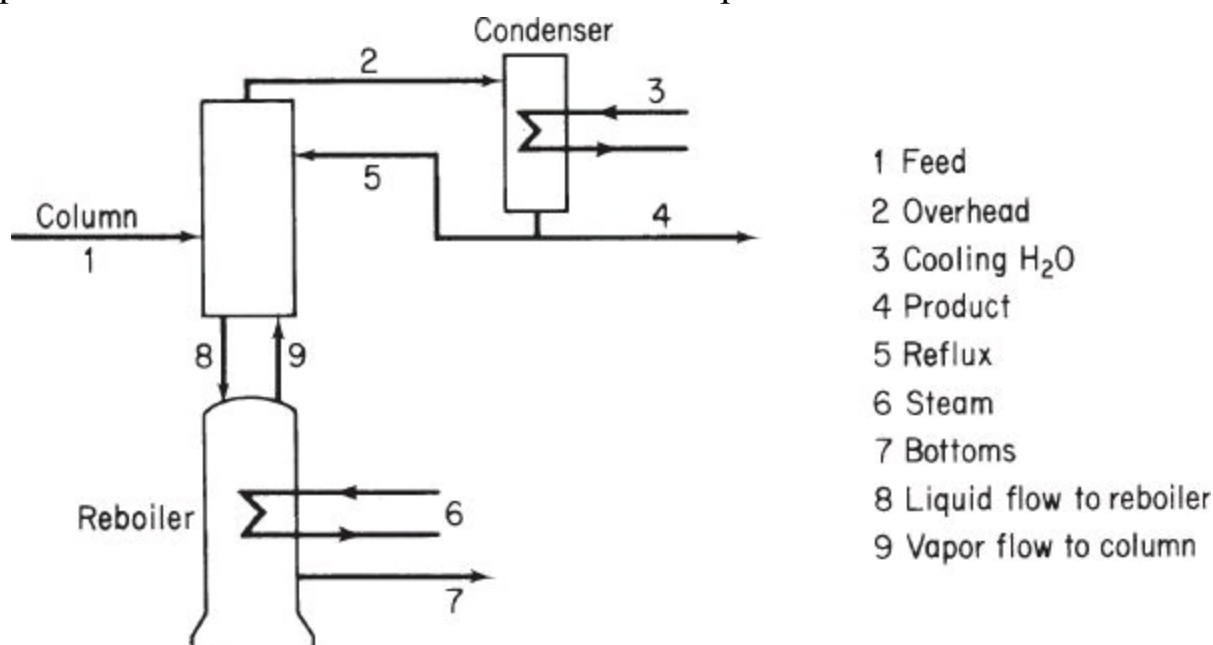

Figure P6.1.4
****6.1.4.** The diagram in Figure P6.1.4 represents a typical but simplified distillation column. Streams 3 and 6 consist of steam and water and do not come in contact with the fluids in the column that contains two components. Write the total and component material balances for the three sections of the column. How many independent equations would these balances represent? Assume that stream 1 contains *n* components.